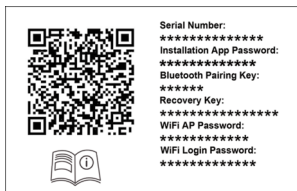

Figure 1: Example of the password sticker in the Safety Guide.
- a) Establishing a Bluetooth connection with the Wallbox. Please scan the multifunctional QR code with individual access information on the **password sticker in the Safety Guide / Installation: first steps** (see Figure 1 below for an example of the QR code).
9. Optional: Establishing the connection to the MINI App. To establish the connection, please use the multifunctional QR code with individual access information on the **password sticker in the Safety Guide / Installation: first steps** (see Figure 1 below for an example of the QR code).